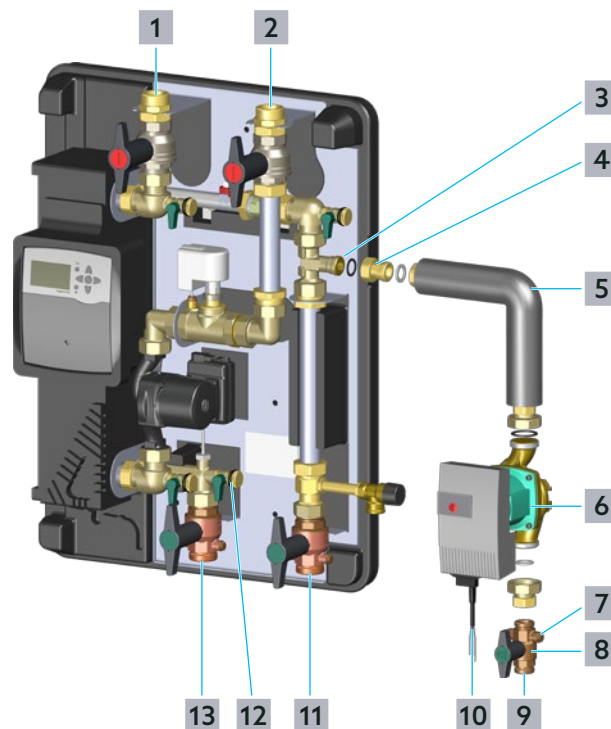

Fig. 2: System example
- 2 Slowly close the shutoff ball valve in the cold potable water supply (position **11** in Fig. 2 on page 5).
- 3 Slowly close the shutoff ball valve in the hot potable water return (position **13** in Fig. 2 on page 5).
- 4 Unscrew the cap of the fill and drain ball valve for hot potable water (position **12** in Fig. 2 on page 5) and connect a drain hose.
- 6 Unscrew the cap from the connection for the circulation set (position **3** in Fig. 2 on page 5).
- 7 Mount the check valve (position **4** in Fig. 2 on page 5) with the associated sealing ring to the station.
- 8 Mount the pipe elbow (position **5** in Fig. 2 on page 5) with the associated sealing ring onto the check valve.
You can install the high-efficiency pump (accessory) and the ball valve (position **8** in Fig. 2 on page 5) as required between the last draw-off point and the fresh water station in the "hot potable water circulation return".
- ▶ If you want to set up your system according to the system example in Fig. 2 on page 5, screw the high-efficiency pump you have selected to the pipe elbow. Observe the instructions in the documents enclosed with the pump.
- ▶ Mount the ball valve (position **8** in Fig. 2 on page 5) at any position between the last draw-off point and the pipe elbow.